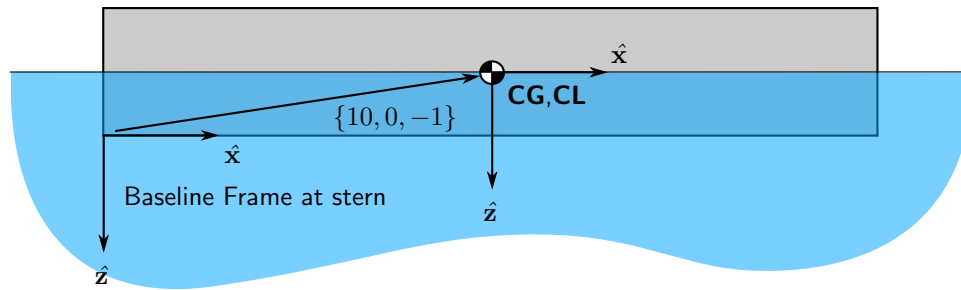

Figure 59: The baseline frame for the 20mx20mx2m box showing the location of the center of loading frame.
- 🔍 One property worth noting is \$CLPositionFromBaseLine which defines the location of the center of loading for the database relative to the stern/baseline frame as shown in Figure 59. The center of loading frame is the reference frame about which all loads are defined in the database.